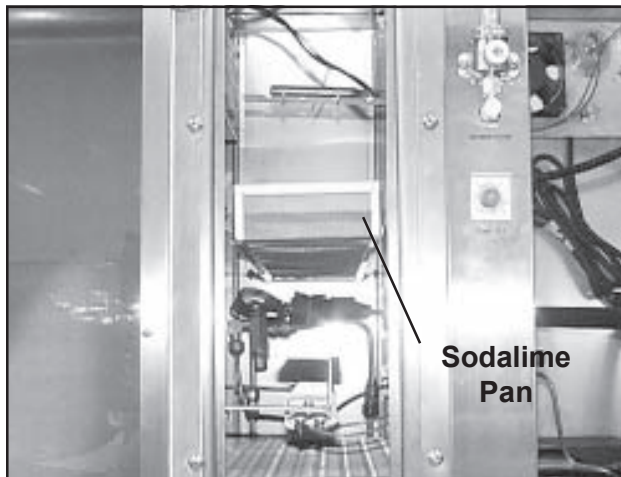

Figure 155. Sodalime Pan in Filter/Fans Compartment
2. Carefully, and without spilling the contents, remove the Sodalime pan (Figure 155).
5. Carefully, and without spilling the contents, remove the Sodalime pan (Figure 155). Place the pan where it will be safe and not accidentally spilled. Observe the cautions shown on *Page 131*.